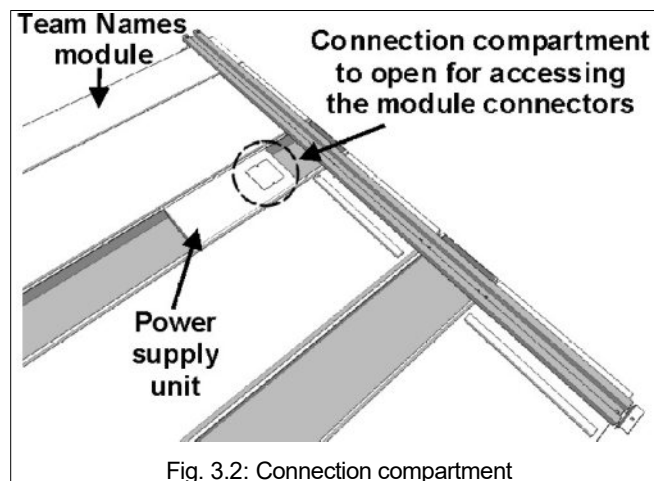
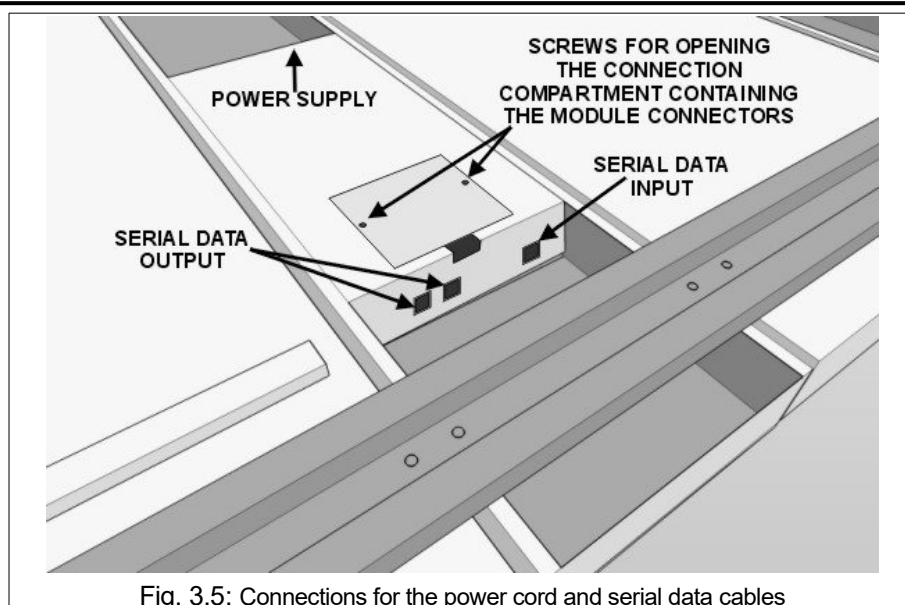

Fig. 3.2: Connection compartment
Fig. 3.5: Connections for the power cord and serial data cables
1. Locate the module containing the power supply unit (see Fig. 3.2); using a Phillips screwdriver, open the connection compartment containing the module connectors (Fig. 3.5).
The following connectors are found inside the power supply unit (see Fig. 3.5):